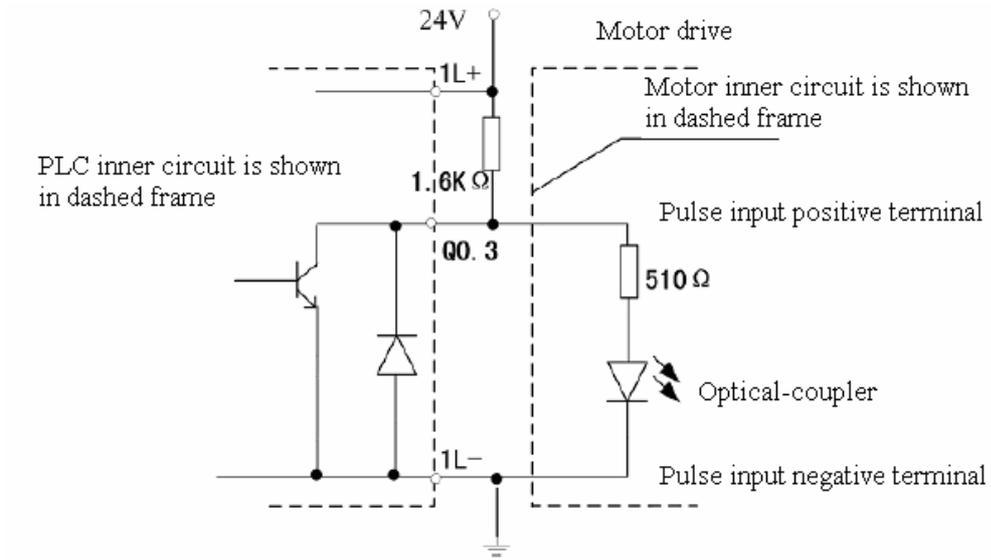
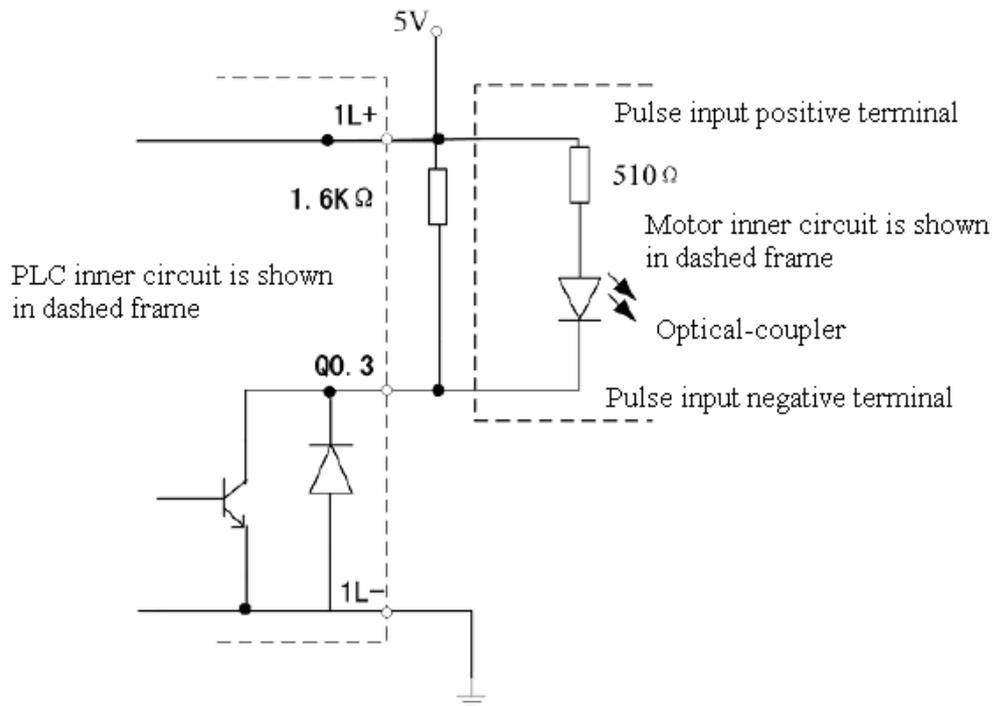

Figure 2.5.2 The Connection between LM3106A High-speed Output and Motor Example1 (same connection method to Q1.1)
Figure 2.5.3 The Connection between LM3106 High-speed Output and Motor Example2 (same connection method to Q1.1)
- ◇ Figure 2.5.2 and Figure 2.5.3 show two examples of the connection between LM3106A high-speed output and motor, and L+ connects with 24V and 5V respectively. In figure 2.5.2, L+ connects with 24V. 1.6K $\Omega$  resistance is used to the drive rated current value between 10 and 20mA; its resistance value depends on the load (motor driver) current value, and assures that the dynatron current is between 15mA and 100mA when the output dynatron is break-over to supply current channel to the high-speed output. In Figure 2.5.2, when the application program sets Q0.3 value as 1 the dynatron is break-over and does not drive load; when the application program sets Q0.3 value as 0 the dynatron is not break-over and drives load. Figure 2.5.3 is suitable to L+ connects with 5V.